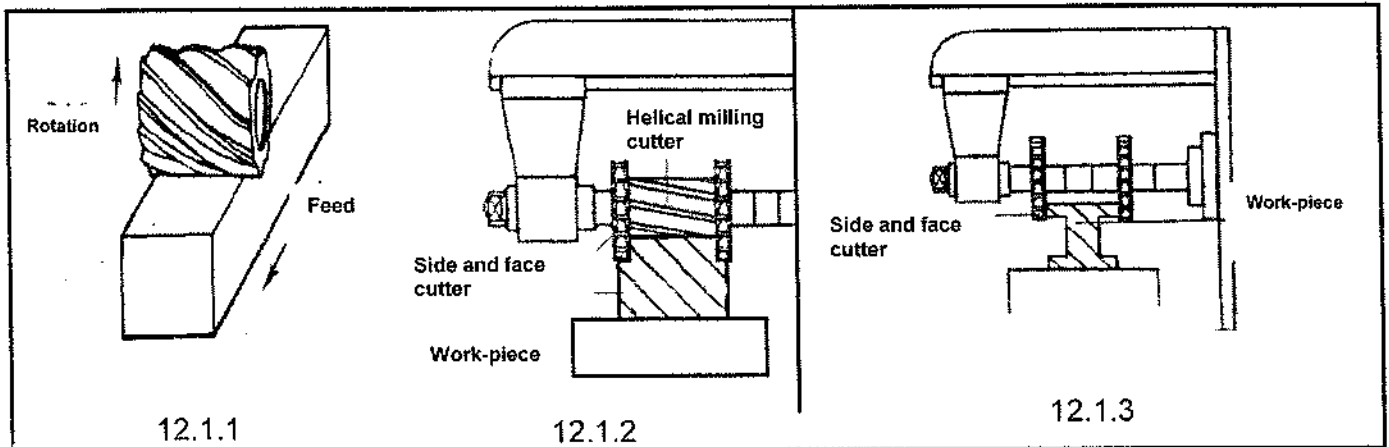

FIGURE 4
- 12.1 Identify the milling methods in FIGURE 4. Write only the answer next to the question number (12.1.1–12.1.3) in the ANSWER BOOK. (3)